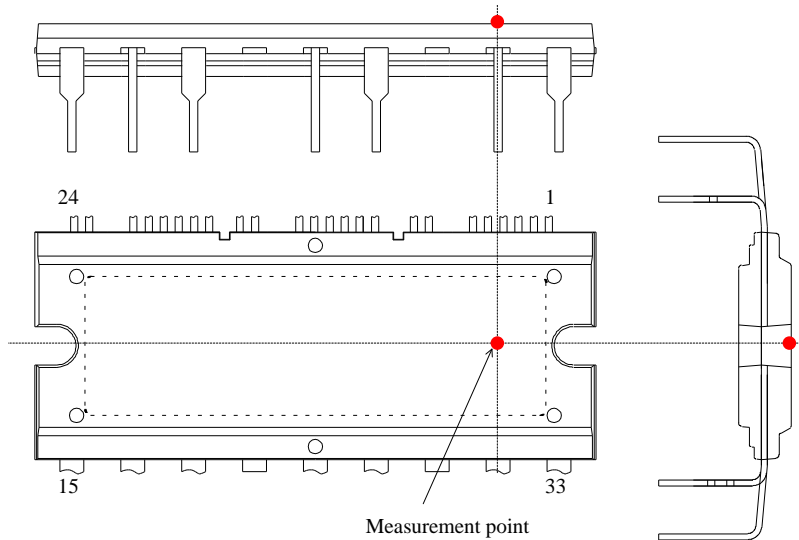

Figure 3-1. Case temperature measurement point
- (1) Refers to a case temperature at the measurement point described in Figure 3-1, below.